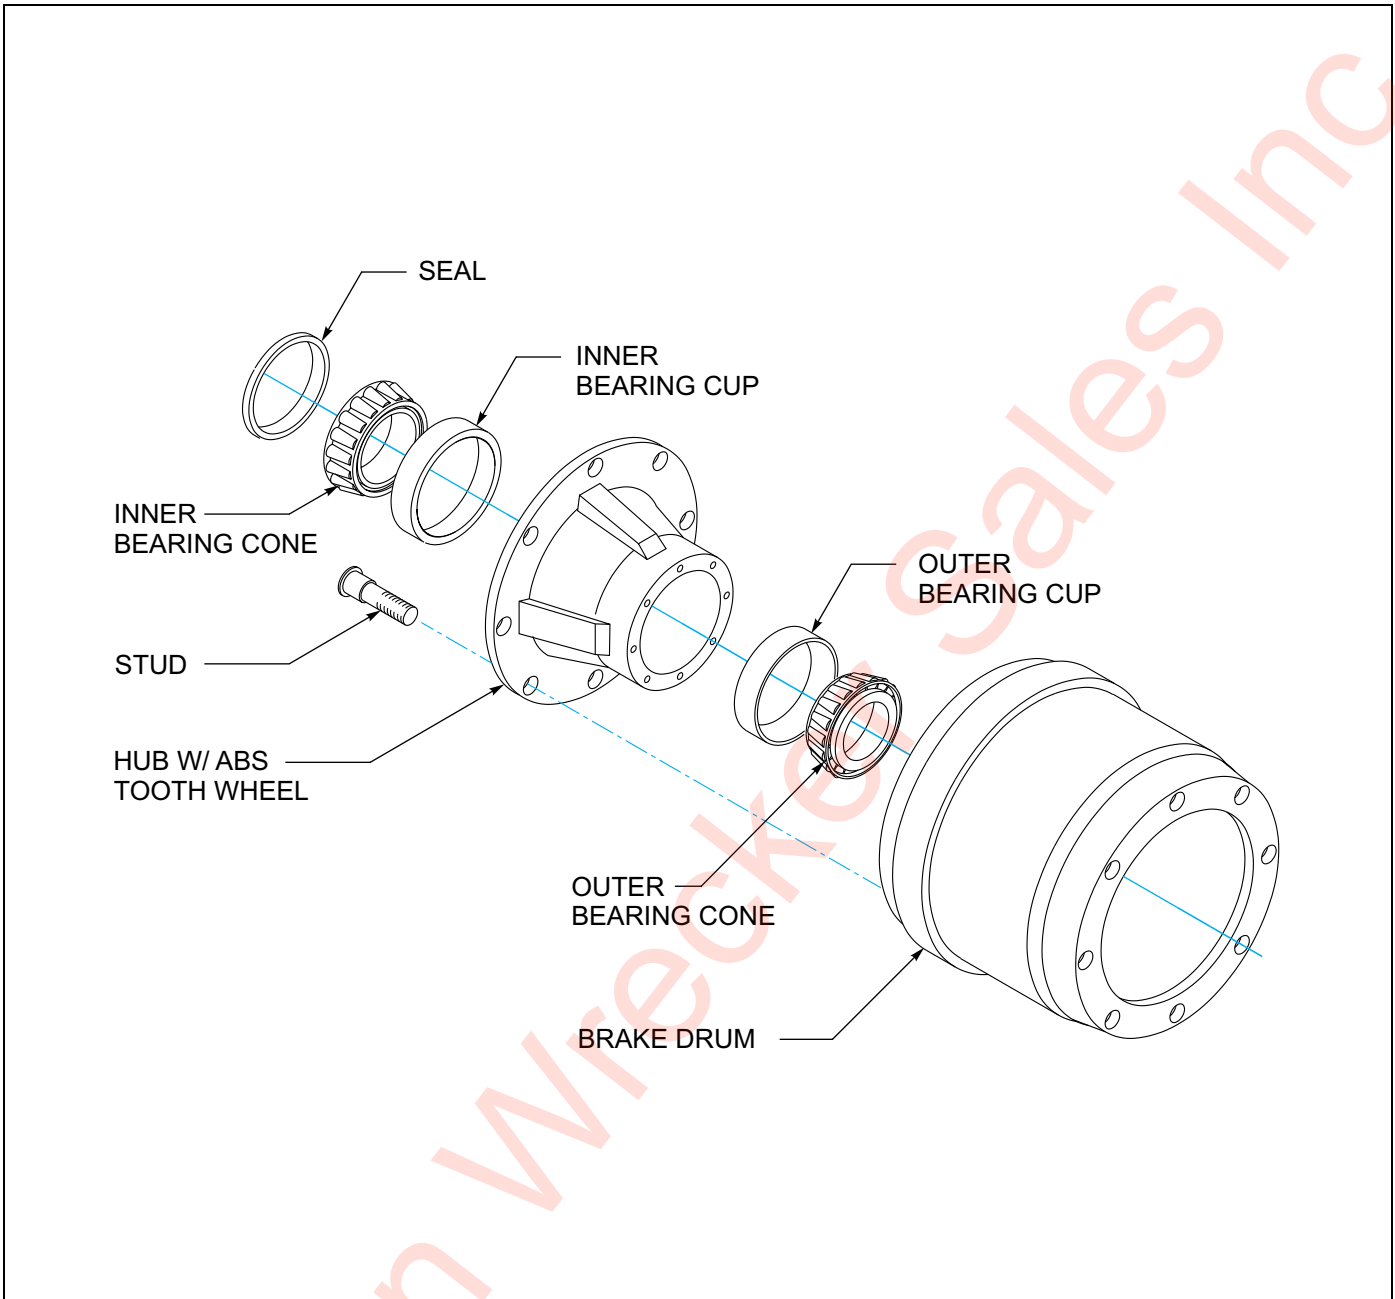

Figure 4-15: Outboard Mount Hub and Drum
3. Remove drum assembly (See Figure 4-15.)
4. Replace the hub and drum as follows: **(See Figure 4-15.)**
- i. Place the drum over the hub and brake shoes being careful not to damage the threads on the studs **(See Figure 4-15.)** Make sure the drum seats flat against the hub flange and mates properly with the hub pilot. There should be no interference between the brake drum pilot chamfer and the corner radius on the hub. If interference exists, the hub will not be able to function properly.
- k. If studs are marked "R" or "L", right hand ® hubs should be installed on the curbside of the vehicle, left hand (L) hubs should be installed on the driver side.